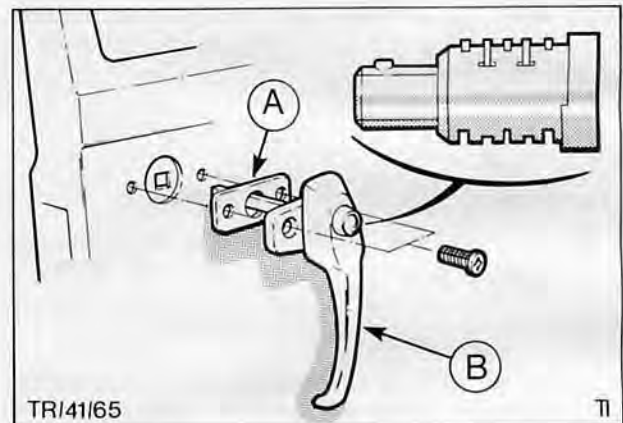

Fig. 53. Exterior handle and cylinder assembly
2. Turn exterior handle to 'open' position and remove screws securing handle to door, Fig. 53.
4. Remove circlip (C), spring (D) and spacer washers (K) from door handle boss and withdraw escutcheon plate from handle.
5. Tap out pin (B) securing square section rod (A) and withdraw rod. Similarly, tap out pin (F) securing lock barrel (J), in handle and withdraw barrel.